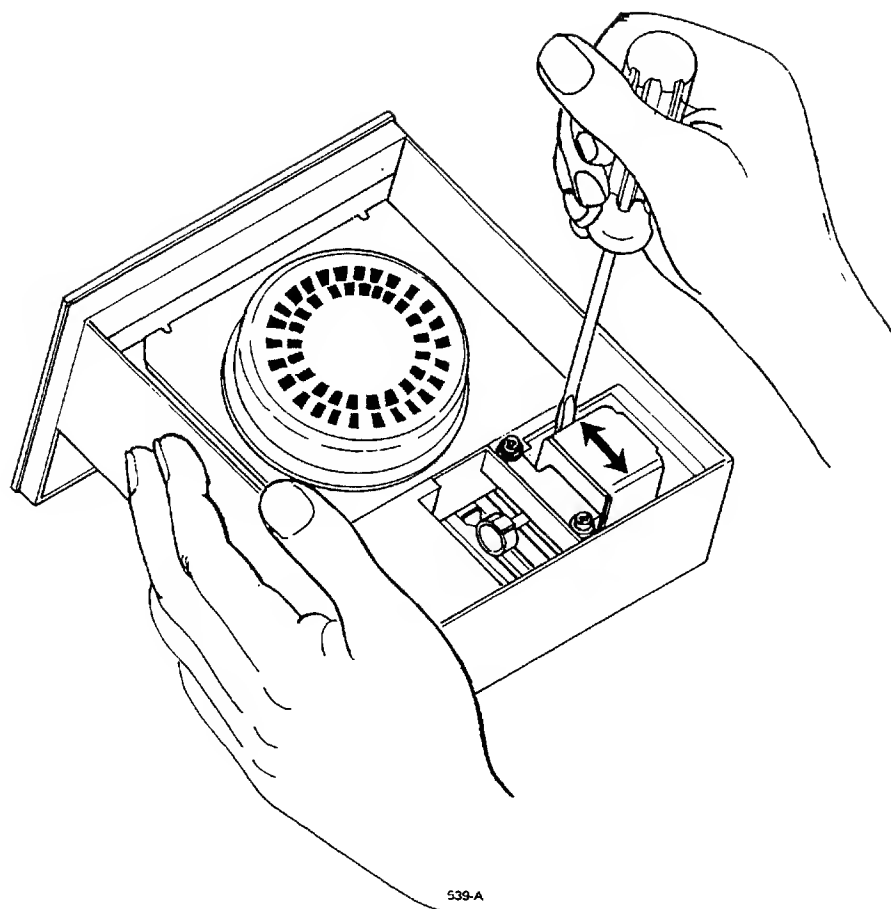

Figure 37. Head Alignment Adjustment
7. If the carriage position requires adjustment, loosen the two stepper motor mounting screws about one sixteenth of a turn (mounting screws should be snug enough to maintain position while handling). While observing the oscilloscope, gently move the motor with a screw driver (as illustrated in Figure 37), pushing the motor into a position where LOBE A equals LOBE B. Secure the mounting screws.